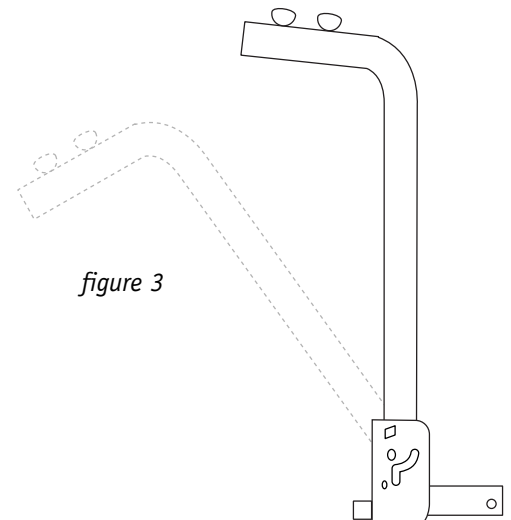

figure 3
2. Carefully lower the Upright Tube (A). (See figure 3).